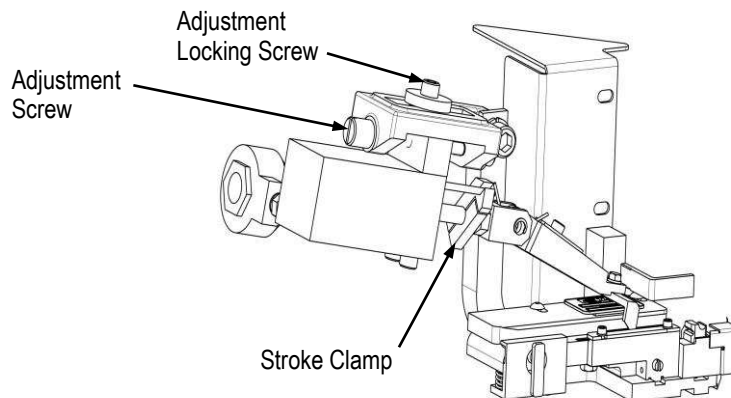

Figure 9
8. Turn the adjustment screw to make an adjustment (see Figure 9).
11. If the feed finger stroke is incorrect, loosen the stroke clamp (see Figure 9) and move the clamp closer to the air cylinder for less stroke and further from the cylinder for more stroke.